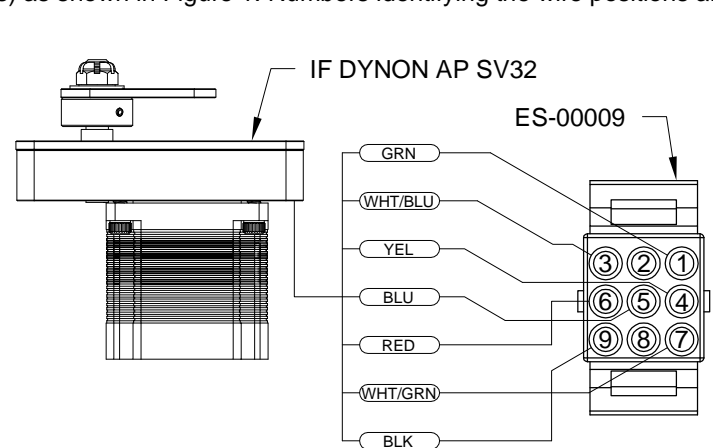

FIGURE 1: SERVO CONNECTIONS
Step 3: Insert the wires from each IF DYNON AP SV32 Autopilot Servo into an ES-00009 Molex Receptacle, 9 Position (.093" Sockets) as shown in Figure 1. Numbers identifying the wire positions are molded into the back of the connector.